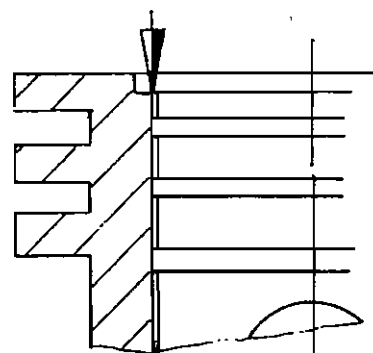

Fig. 11.10 Checking the piston
- Remove the tube nuts, tubes and ferrules from the tube connections (19,20) to the valve head (15) and the intake filter (not shown).
- Inspect the o-ring (18). Replace it if it is damaged.
- Unscrew and remove the socket head cap screws (21).
- Lift the valve head (15) from the piston cylinder. The valve plate (17) rests free on the piston cylinder; it is not spring operated.
- Inspect the valve plate. It should be plane and free of grooves. The maximum concentric groove depth should not exceed 0.05 mm (0.002"). The top of the piston should be flush with the valve seat (see fig. 11.10).
- Inspect the o-ring (16). It should be in perfect condition: undamaged and non-porous. Replace it if necessary.